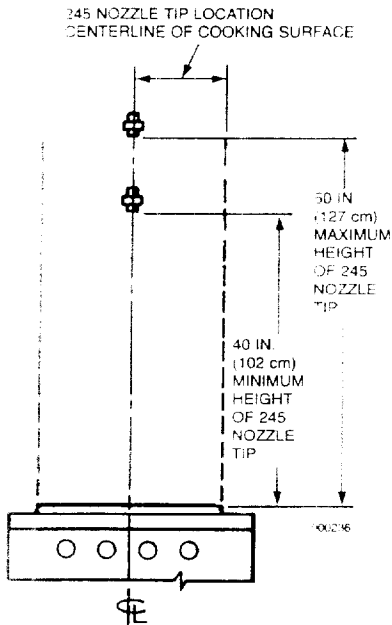

FIGURE 44
▶ When using this nozzle for range protection, the nozzle must be pointed vertically down and positioned as shown in Figures 44 and 45.